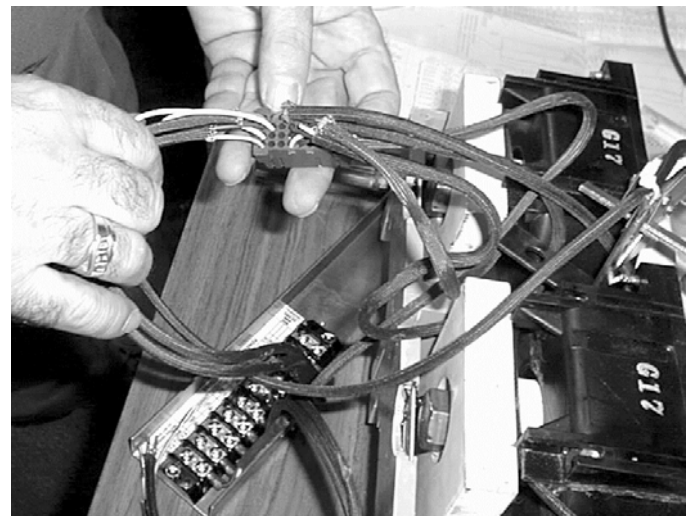

Figure 5. Connecting the leads from the new terminal board to the trip unit plug.
10. Connect the leads from the new terminal board [1] to the large plug, as shown in Figure 5, according to the wiring diagram in Figure 6. Use AMP tool 455822-2 to remove incorrectly placed pins from the plug.